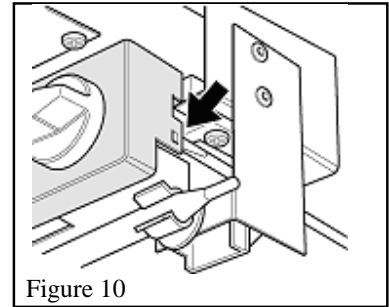

Figure 10
11. Lever off the control cover using a screwdriver or similar. See figure 10.
18. Turn appliance off. Remove the manometer and tighten the test tapping screw. Refit the control cover, ensuring that it's clipped over the nib (See figure 10).